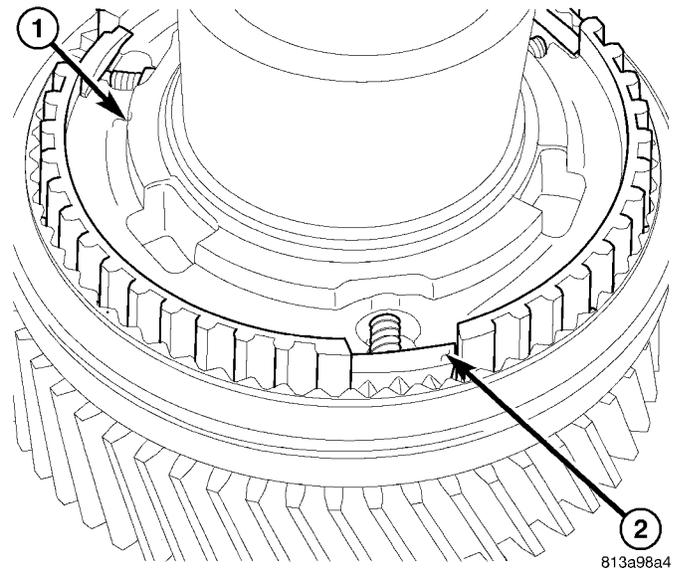

Fig. 32 1-2 SYNCHRO DETENT
(16) Remove first gear synchronizer rings.
(17) Push 1-2 synchronizer sleeve down on hub. Remove 1-2 synchronizer hub (1) (Fig. 32) detents (2), balls and springs.